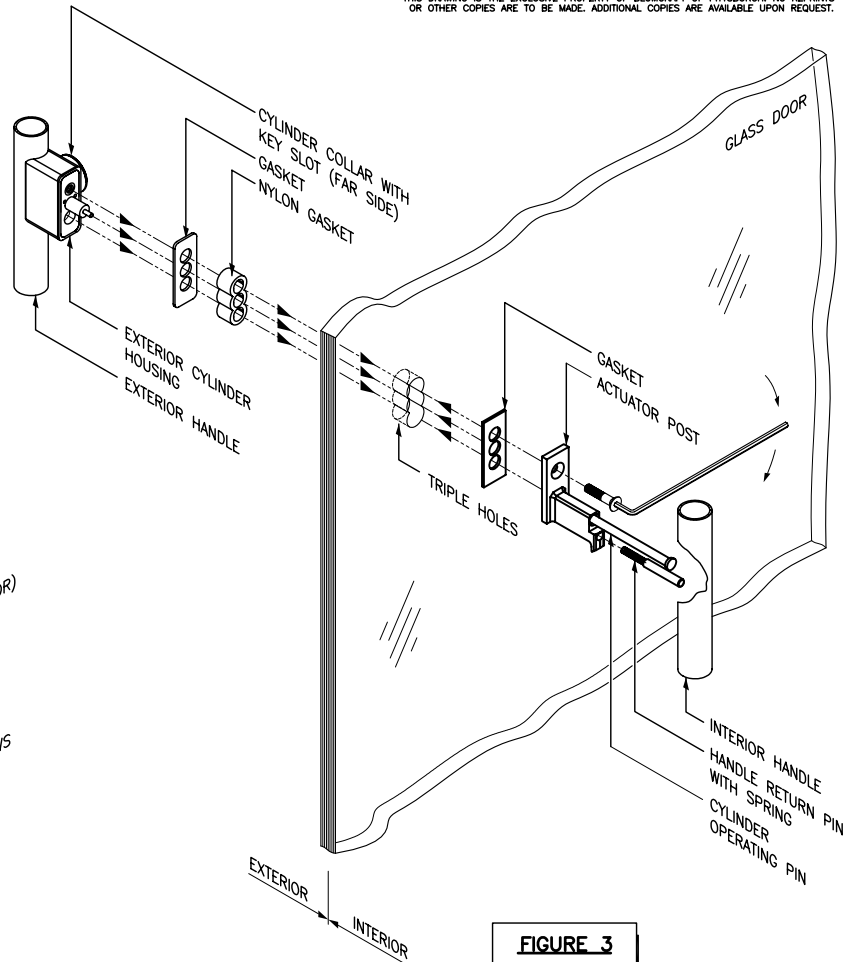

FIGURE 3
- DEPENDING UPON HOW ACCURATELY THE TRIPLE HOLE CUTOUT IN THE GLASS HAS BEEN DIMENSIONALLY LOCATED (SEE NS-850 INSTRUCTION SHEET). PLACE FLAT SIDE OF HANDLE ACTUATOR CONTAINING CYLINDER OPERATING PIN, RETURN SPRING AND RETURN PIN, AGAINST GLASS OVER NYLON BUSHING AND SCREW 5/16-18 FLAT HD. SOCKET CAP SCREW CLOCKWISE INTO CYLINDER HOUSING (FIGURE 3).